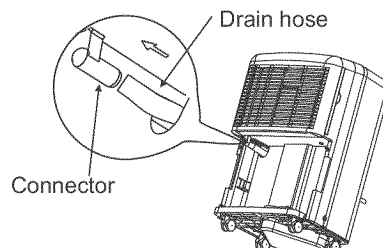

Fig.9
- Insert the drain hose through the hole in the back of the unit and securely press it onto the connector on the front of the unit (see Fig.9). Then lead the drain hose to the floor drain or a suitable drainage facility.